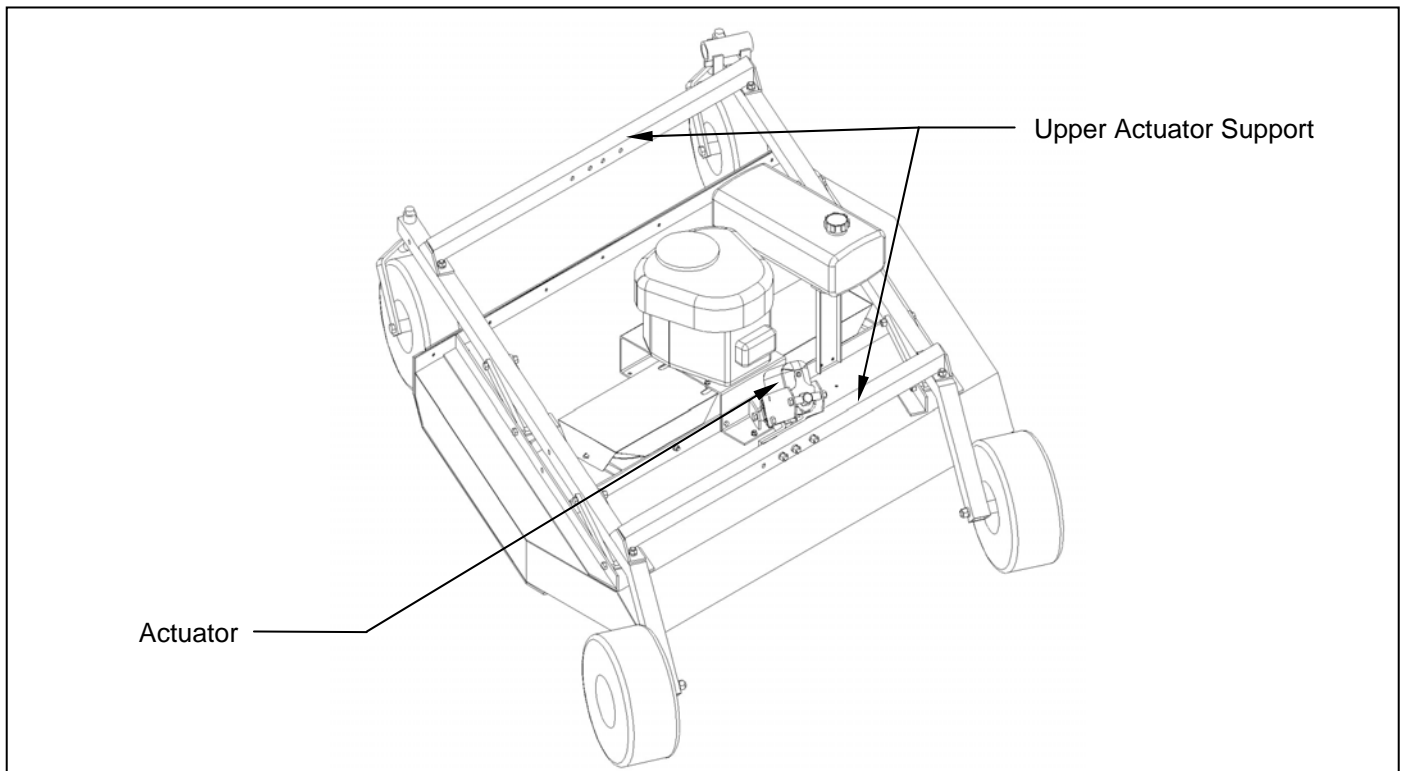

Figure 3: Upper Actuator Support Installation
3. Install the upper actuator supports on the carrier arms with the provided 1/2" x 3" hex head bolts, lock washers and nuts. Only hand tighten the hardware for this step. The support that has the electric linear actuator fastened to it needs to be placed on the rear location. Orientate the support such that the actuator hangs towards the engine. **See figure 3.**